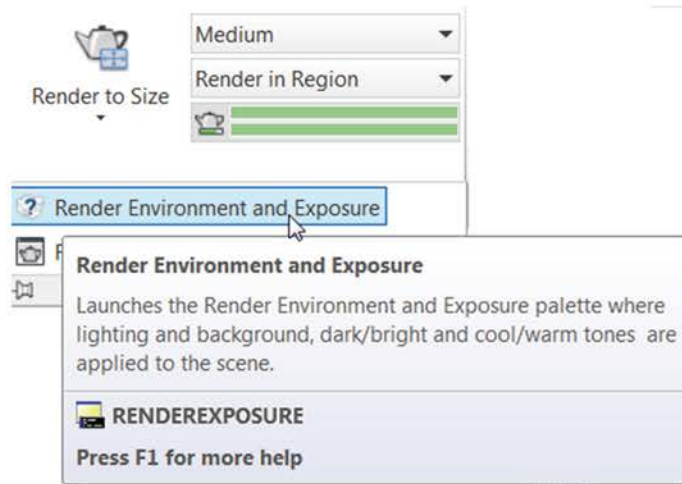

Fig. 16.16 The expanded Visualize/Render panel
1. Select **Environment** in the expanded **Visualize/Render** panel. (Fig. 16.16).